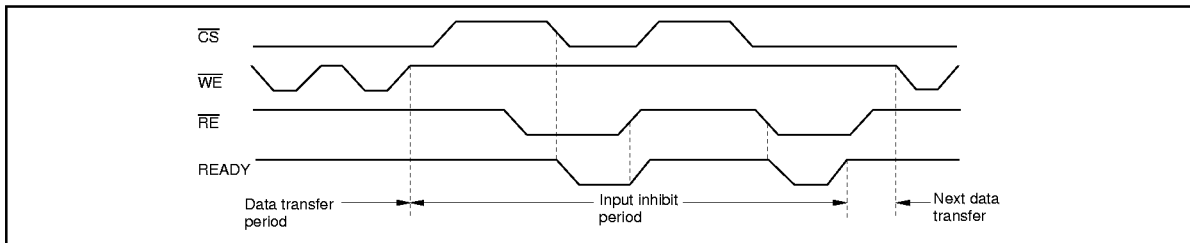

Figure 15 READY Output Timing (When It Is Made Available by $\overline{\text{CS}}$ and $\overline{\text{RE}}$)
- READY is mode available by $\overline{\text{CS}}$ and $\overline{\text{RE}}$ (Figure 15).